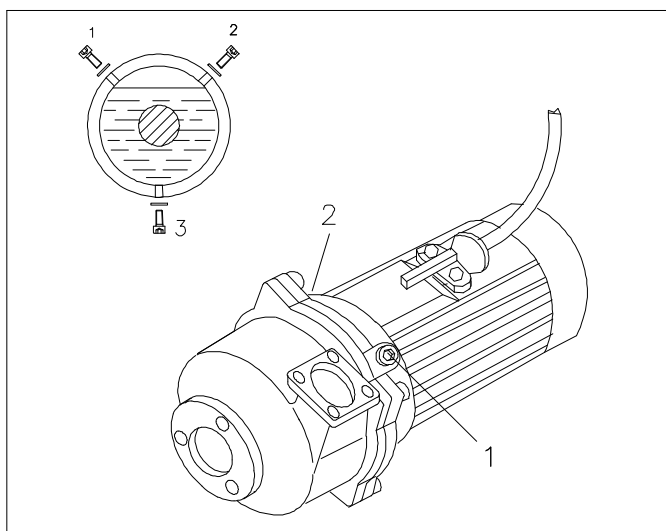

Fig. 7.3
Put the pump in a horizontal position so that 2 hexagonal socket screws are on top and one at the bottom (see fig.7.3). Unscrew the level plug (1) and the vent plug (2).